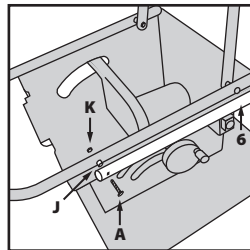

Fig. 9
- Attach component **3** to the rest of the leg assembly using the remaining fixings labelled **A**, **J** and **K** (**Fig. 9**). It may help to move component **4** out of the way.